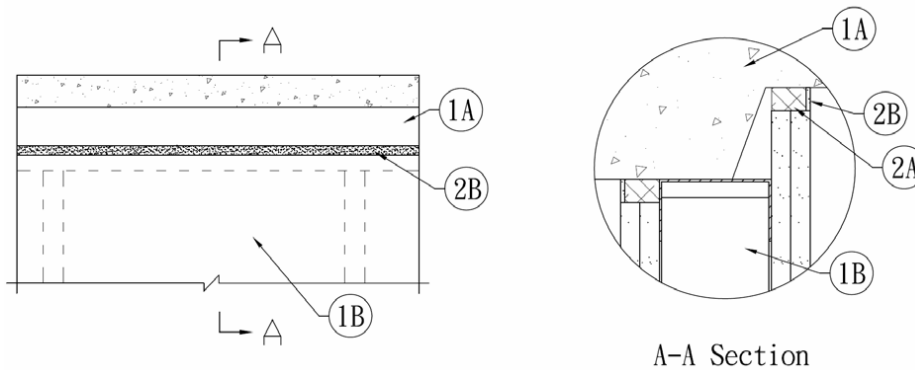

Figure 1. Through Penetration Firestop System
- shall be extended above the ceiling runners as required to be within 3/4 in. of the underside of the metal deck ridges (see Figure 1).